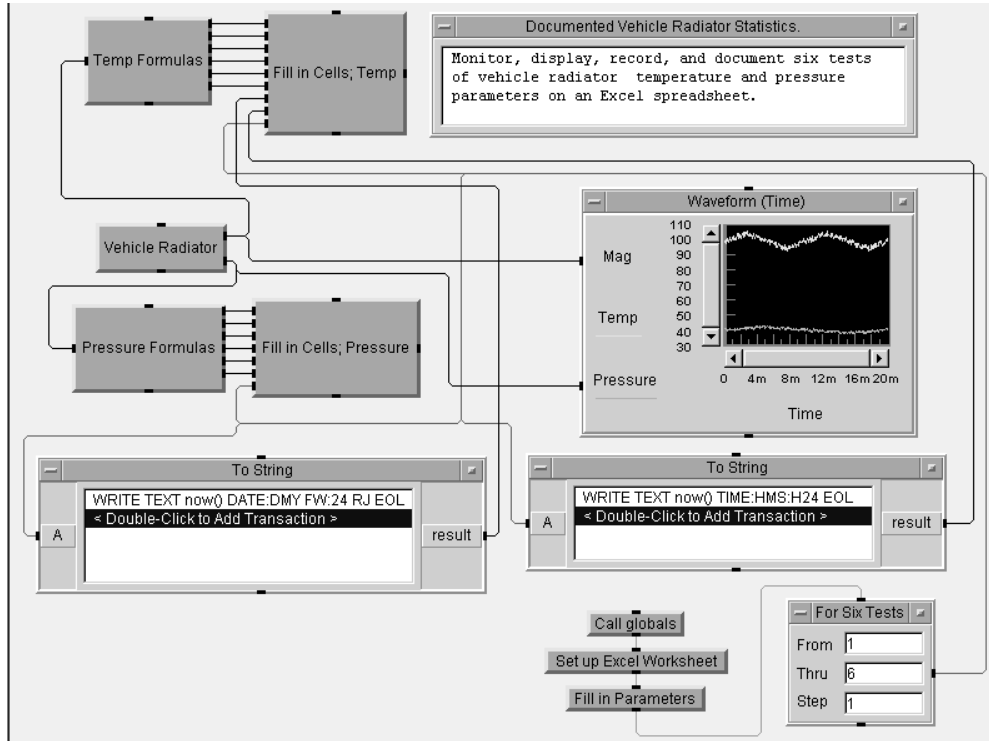

Figure 1. The six-test Vehicle Radiator program
The following report is a summary of the first tests of the Vehicle Radiator monitoring program. Included in this report is a copy of the program (Figure 1) that was used to perform the six tests.
6. Choose a title for Figure 1 in the Word document.